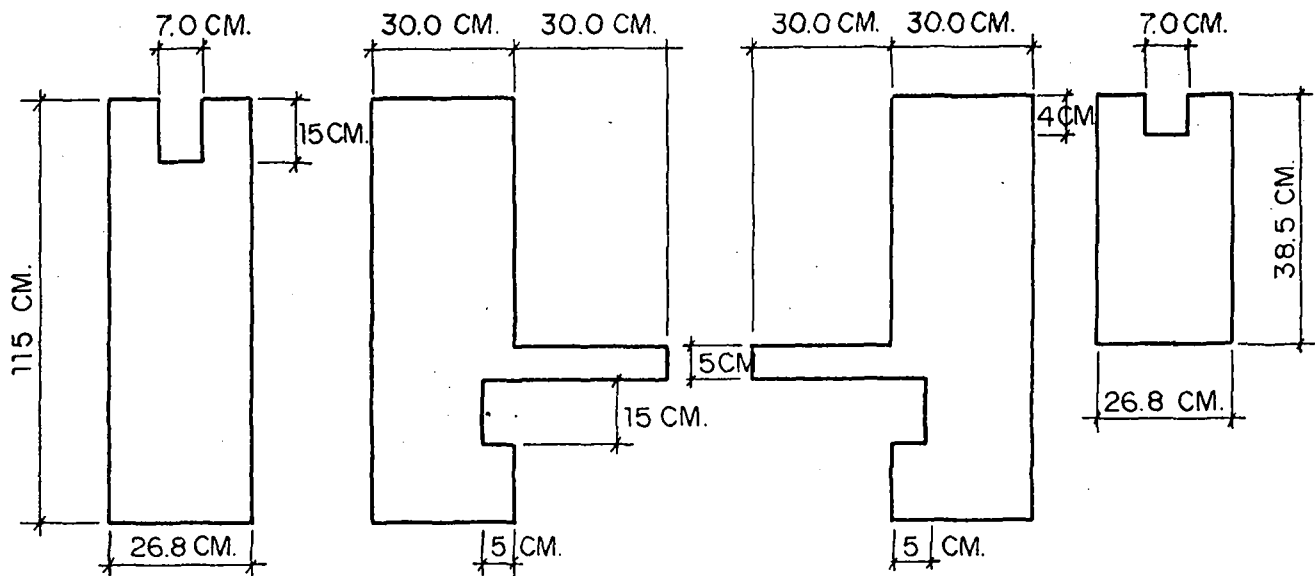
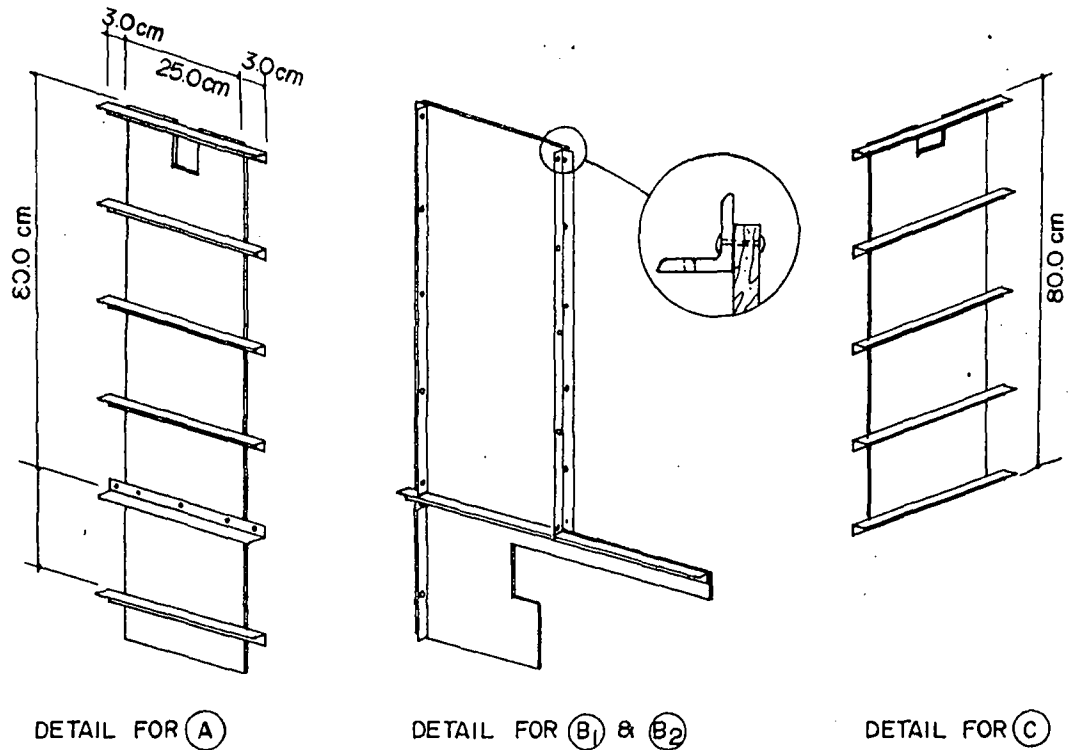

FIGURE 2.1
FIGURE 2.2
- a. Make a sketch of the forms on the plywood according to the form and dimension given in Fig. 2.1
- c. Cut the angle bars as shown in Fig. 2.2 leaving an allowance of about an inch at each end of the bars for A and C of Fig. 2.1.
- e. Screw the bars on the plywood piece. See Fig. 2.2.